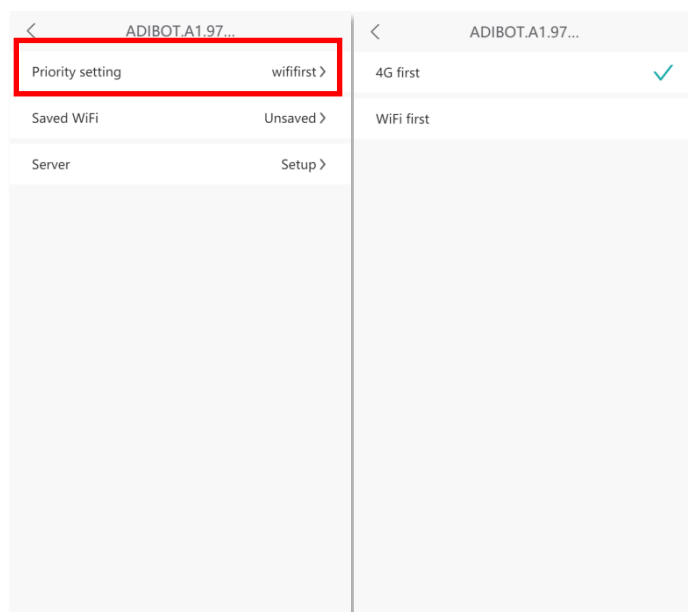

Figure 4.2.1b
- Open the back cover of the 4G network card, and insert the 4G Micro SIM network that can access Internet into the PC, as shown in Figure 4.2.1b. You can first insert network card into the OC. When the 4G network card in the USB port changes from red indicator to blue indicator flashing every 2 seconds, you can confirm that the 4G network card can connect to Internet provided that the PC can access the Internet normally.